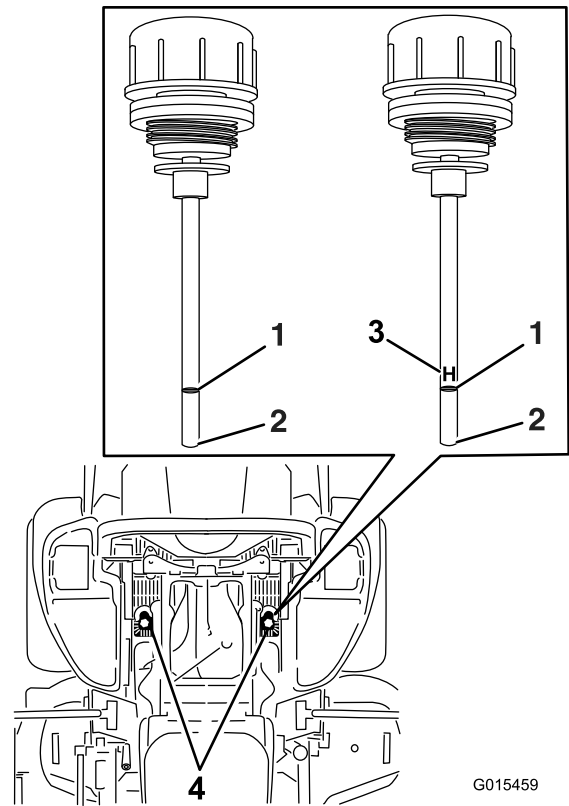

Figure 86
6. Clean the area around the dipsticks of hydraulic-system reservoirs (Figure 86).
7. Remove one dipstick from the hydraulic reservoir (Figure 86).
9. Remove the dipstick and look at the end (Figure 86).